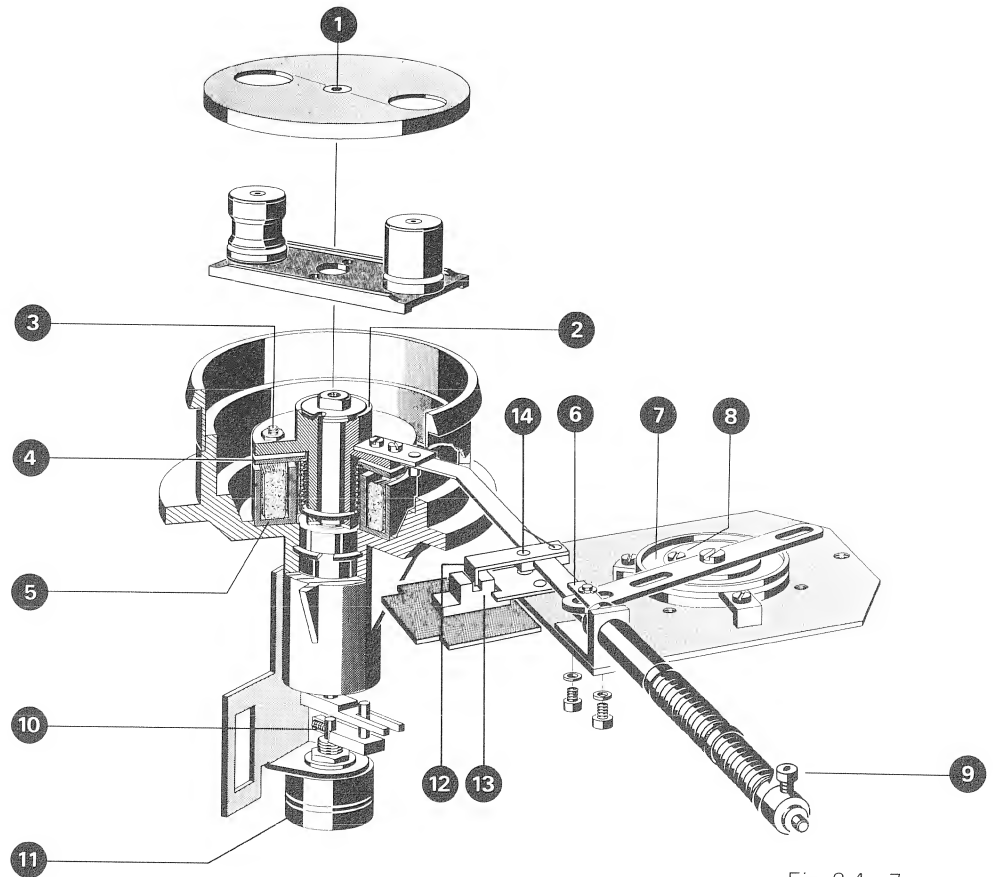

Fig. 2.4.-7
The microswitch must operate shortly before the solenoid bottoms. To adjust, loosen the two screws fixing the microswitch ⑧ (fig. 2.4.—4).
10. Press the PLAY key repeatedly and at the same time adjust the amount of pneumatic damping. Adjustment is made by carefully rotating the body of the dashpot ⑭, thus covering a larger or smaller area of the air vent.
Mechanische Einstellungen der Bandzugwaagen Fig. 2.4.—7